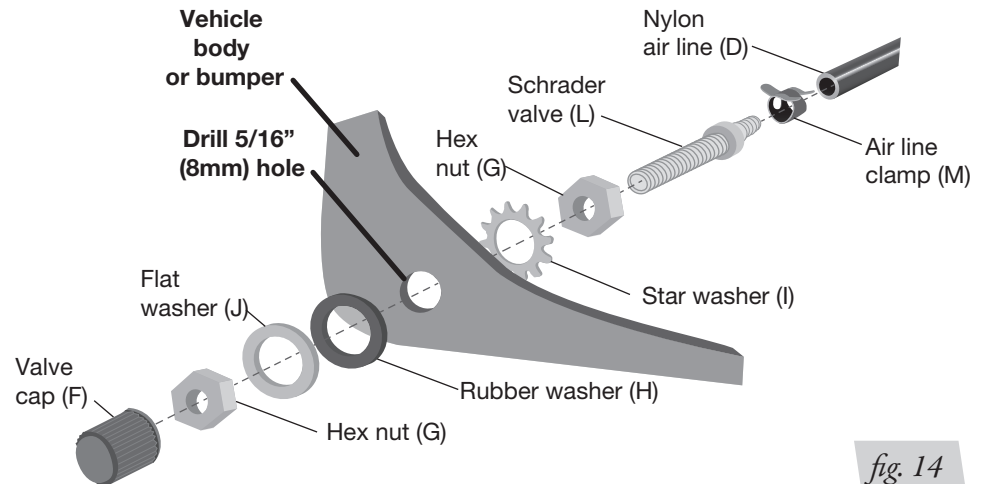

fig. 14
4. Drill a 5/16" (8mm) hole for the Schrader valve (L) and mount as shown (Fig. 14). Install the air line on the Schrader valve first. The rubber washer (H) serves as an outside weather seal.